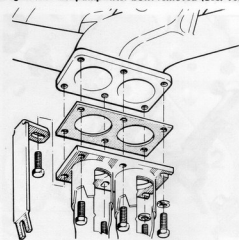

Fig. 3.36. Exhaust manifold attachment flange (Sec. 11)
- 2 The front pipes are attached to the engine manifold by means of a flange and gasket, and secured by six bolts. Whenever the joint is dismantled a new gasket should always be used (Fig. 3.36).